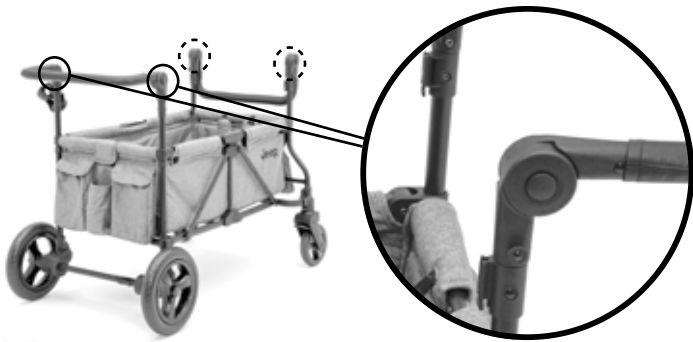

Fig. 3
- To attach front wheel: Push front wheel post into the front wheel housing until it "CLICKS" into a fully locked position. (Fig. 3)
- To adjust handle: Press BOTH buttons (located on either side of handle bar) (Fig. 3).